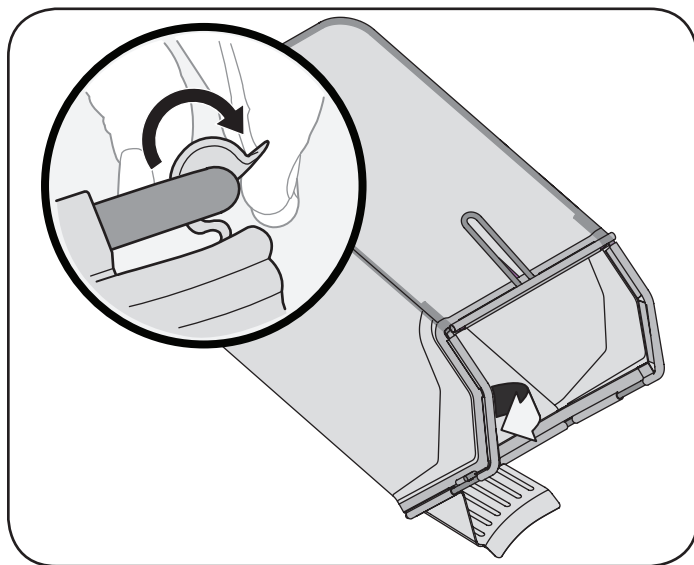

Figure 7
- b. Slip plastic channel of grass bag over hooks on the frame. See Figure 7.